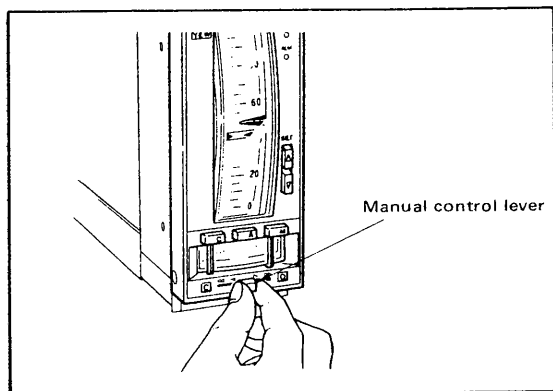

Figure 5-3-2. Manual Control of Output.
- (b) Move the manual control lever left (or right) to adjust the output signal. (Figure 5-3-2).